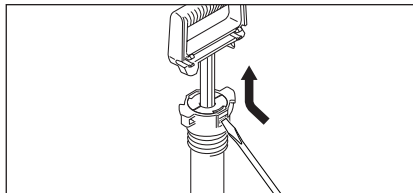

Figure 11. Remove the Pump Cap
2. Remove the pump cap. Push in on the tabs on both sides of the pump cylinder and pry up. Pull the pump handle assembly out of the barrel. See Figure 11.